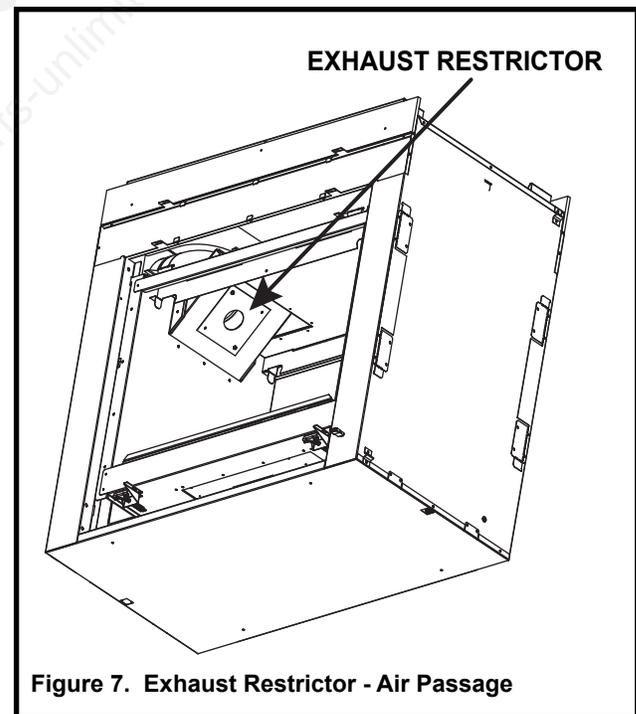

Figure 7. Exhaust Restrictor - Air Passage
3. Use (2) 1/2 in. (13 mm) self-tapping screws to secure exhaust restrictor to the firebox air passage. See Figure 7.